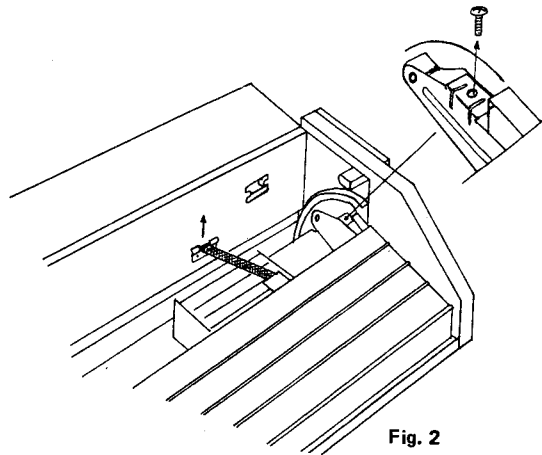

Fig. 2
The elastic strap shock absorbers retaining pins must be removed from their spring clip retainers (see figure 2, No special tools are necessary).
6. Remove control panel retaining screws (2), (see figure 2).